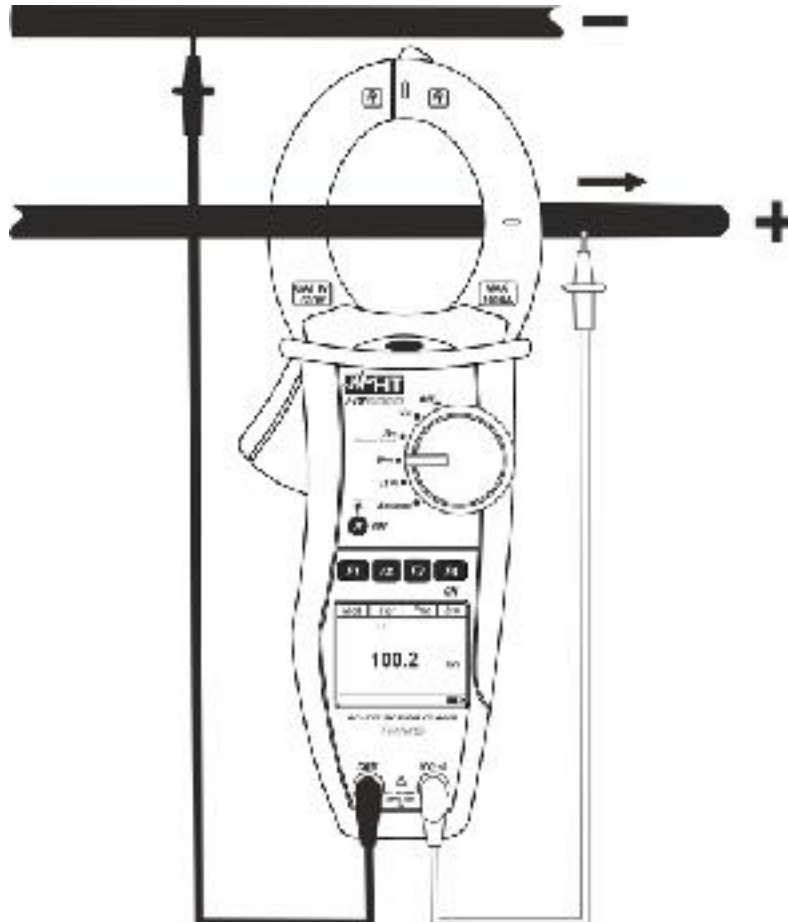

Fig. 12: DC power/energy measurement
5. Connect red cable to input lead **VΩ $\cdot$ )** and black cable to input lead **COM**. Position red lead to “+” and black lead to “-” then connect “+” cable to the clamp jaws, respecting the direction of current indicated by the arrow (see Fig. 12). Connect the cable to the middle of the clamp jaws, in order to get accurate measurements. Use the marks as a reference (see Fig. 2)
6. The value of DC power is displayed expressed in kW. Press **F2 (Par)** to open the drop-down menu shown on the screen aside and select the “**Volt/Curr**” option for the DC voltage and current measurement. Confirm with **F4 (OK)**. The following screen is displayed: